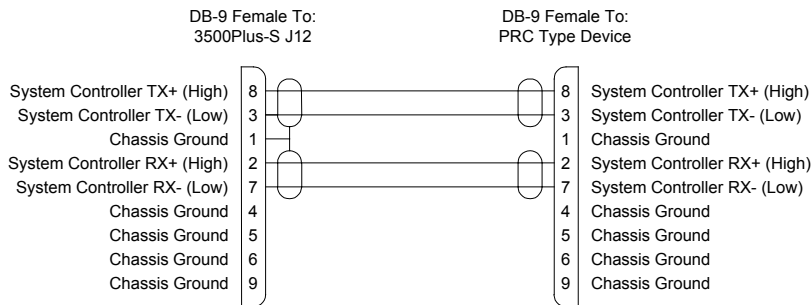

Figure 7. 3500Plus-S RS-422 Serial Cable
- COM 3/PRC is the communications interface to a PRC type routing switcher system and is connected to a routing switcher with an AT Serial Modem cable (Part No. 81-9028-0400-0). If necessary, a cable up to 4000 feet in length may be fabricated in the field as shown in Figure 7.